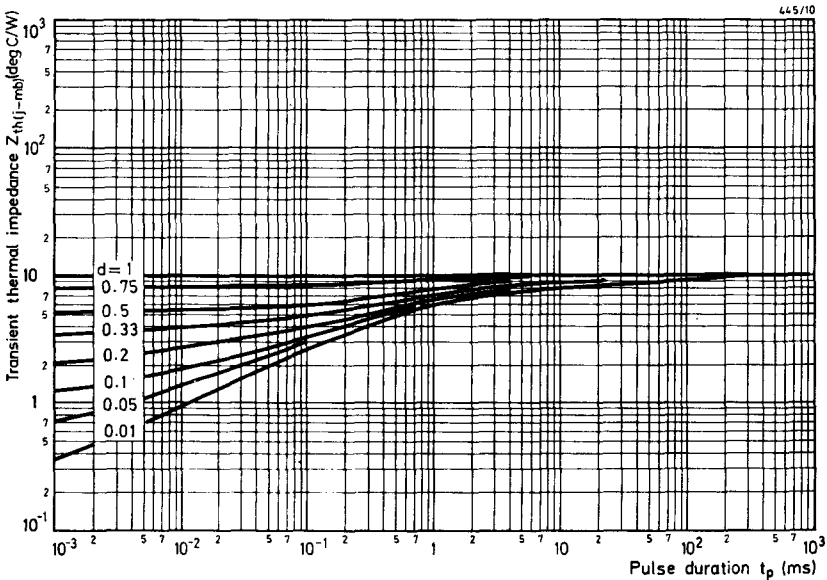
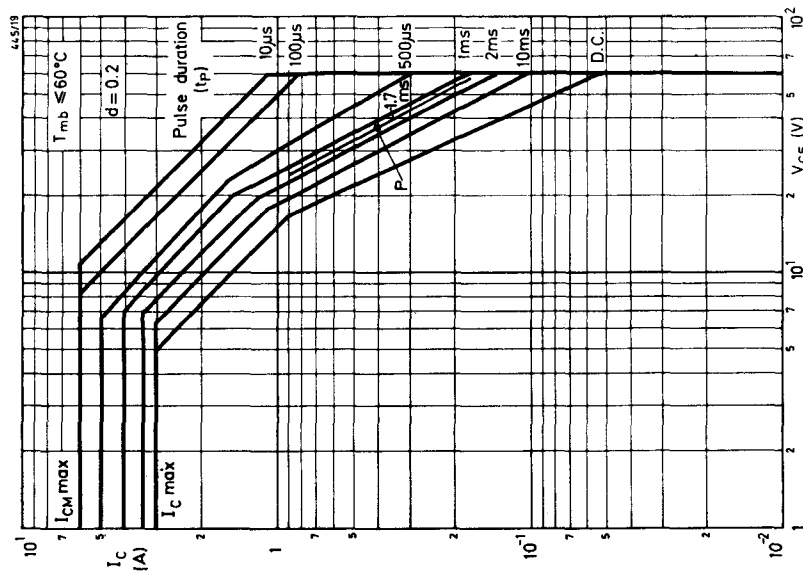

Fig. 2—Typical thermal impedance curves at various duty cycles
Fig. 4—Typical SOAR family for $d = 0.2$ (20% duty cycle)
which is low at high collector-emitter voltages and higher at low voltages. Three loci for critical current values are shown on the diagram; these represent d.c., pulse, and short pulse operation. The extension of the second-breakdown locus for pulse operation is dependent on the pulse duration t_p and also, to a lesser extent, on the duty cycle d (see Figs. 2 and 3). Thus the greatest extension is permissible with single-shot pulses ($d = 0.01$) of short duration, say $10\mu s$. (The value $d = 0.01$ can be considered as single-shot because there is ample time for cooling between power pulses).
In general, the data provides SOAR curves for pulse durations in multiples of 1, 2, 5, and 10, starting at pulse durations in the region 10 to 50 μ s. The families of curves are plotted at duty cycles of 0.01 (single-shot) 0.1, 0.2, 0.5, and 1.0 (d.c.). The transient thermal impedance curves are also included so that the operating mounting-base temperature can be calculated. Typical SOAR data curves for duty cycles of 0.2, 0.5 are illustrated in Figs. 4 and 5.
The procedure for constructing a SOAR for one specific set of conditions is described with reference to the curves shown in Figs. 4 and 5, and to the transient thermal impedance curves in Fig. 2.
Where $Z_{th(td)}$ is the thermal impedance for pulse duration t at duty cycle d , and $Z_{th(to)}$ is the thermal impedance for pulse duration t at duty cycle $d = 0.01$ (from Fig. 2).
Suppose the application had required an I_{CM} of 400mA instead of 300mA. In this case the point P on Fig. 4 would be given. Point P is outside the 2ms area which indicates that the condition may be unacceptable. Thus a closer approximation to the true conditions is necessary.
- If point P is outside the 1.7ms area, then determine the 1.7ms area on the family of curves for $d = 0.2$ (Fig. 4). A further linear interpolation between the two 1.7ms areas is then needed to approximate to the 1.7ms SOAR at duty cycle of 0.37.